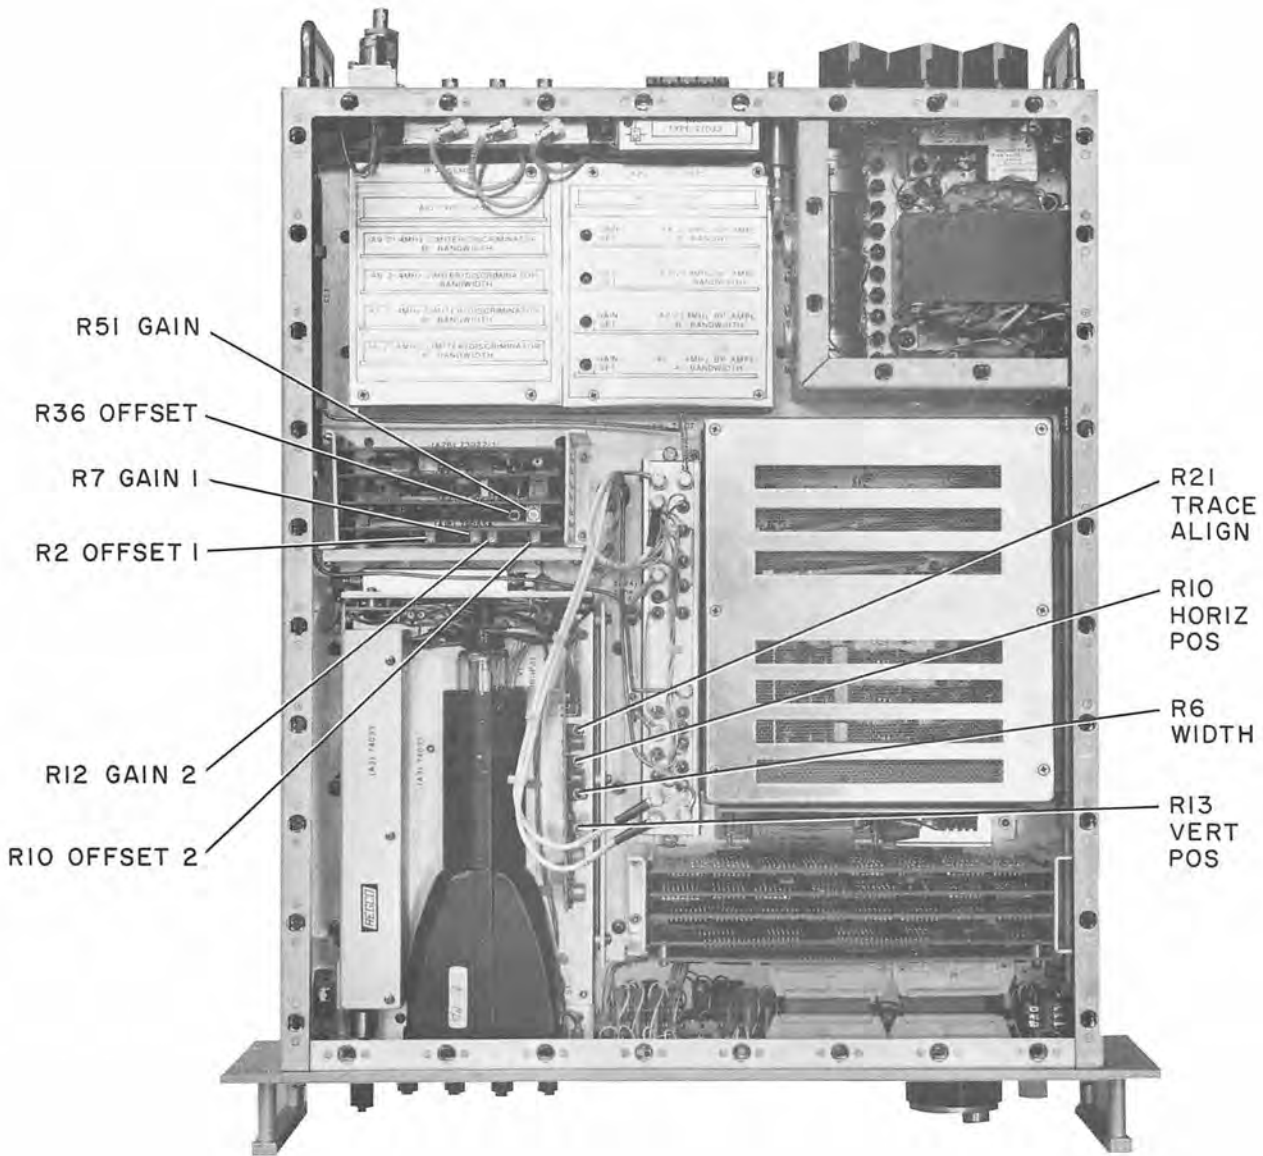

Figure 5-9. AGC Assembly, RF Section, and Spectrum Monitor Adjustment Locations
5-9. A25 AGC ASSEMBLY ALIGNMENT. To align the AGC assembly perform the procedures below. See figure 5-9 for adjustment locations.
5-10. RF TUNER SECTION ALIGNMENT. The adjustments for the RF tuner section are located in A18 RF preselector driver and PIN diode switch drivers board. See figure 5-9 for adjustment locations. To align A18 RF preselector driver and PIN diode switch drivers, perform the following:
- a. Remove receiver top cover to expose alignment adjustments to right of CRT (figure 5-9).